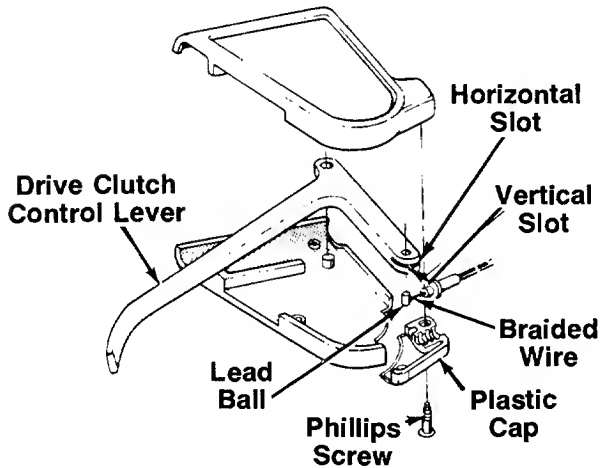

FIGURE 8.
2. Slide the braided wire around in the horizontal slot. See figure 8.
4. Secure the plastic cap to the clutch control housing using the two Phillips head screws. See figure 8.